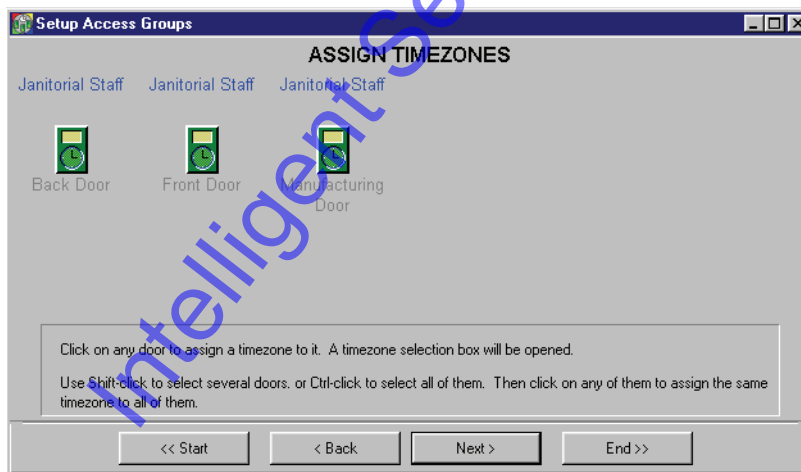

Figure 3-46: Edited Time Zone on Front Door of Access Group
- Click on the **Janitorial Staff** time zone and then click on the  button. The time zone list window will disappear and the window should look similar to Figure 3-46.